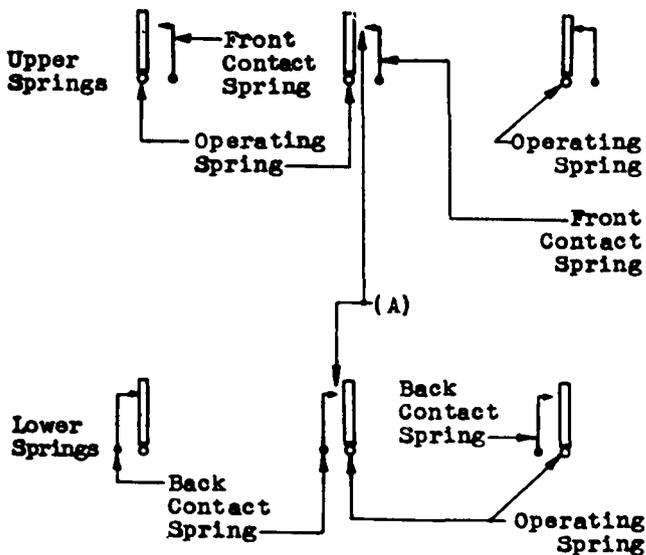

Fig. 20 - Contact Separation - Spring Combination Used on Nos. 149J, 160H, 165H and D-85501 Interrupters
(c) Nos. 149J, 160H and 165H Interrupters - Fig. 20 (A): With the operating bar in the neutral position the separation at the closest point between the contacts of the operating spring and the back contact spring and between the contacts of the operating spring and the front contact spring shall be:
(d) D-85501 Interrupters - Fig. 20 (A): With the operating bar in the neutral position, the separation at the closest point between the contacts of the operating spring and the back contact spring and between the contacts of the operating spring and the front contact spring shall be: